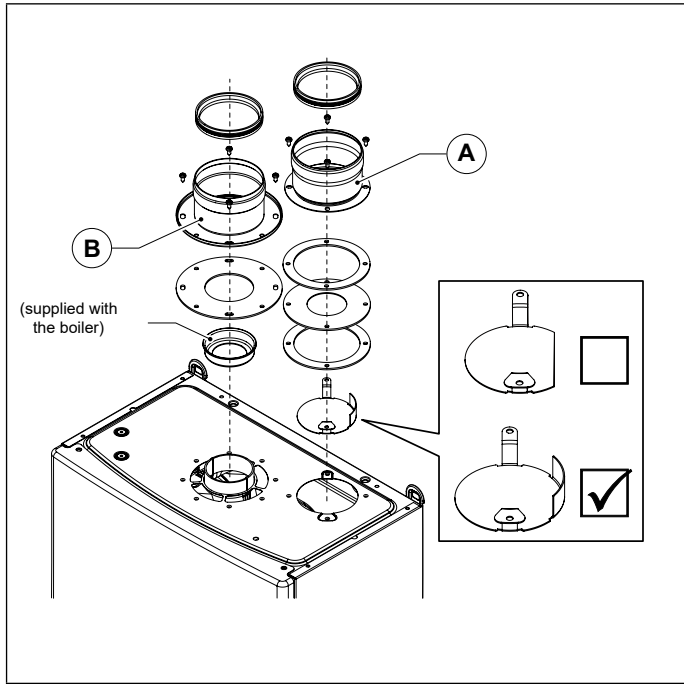

Fig. 14 0SDOPPIA13
- Install the specific air deflector (see Fig. 14 0SDOPPIA13).
Use the diaphragms supplied with the boiler (see Fig. 14 0SDOPPIA13).